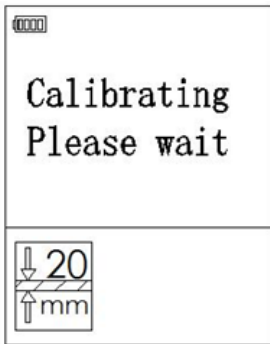
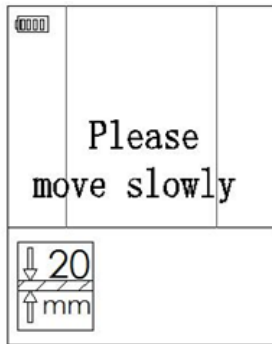
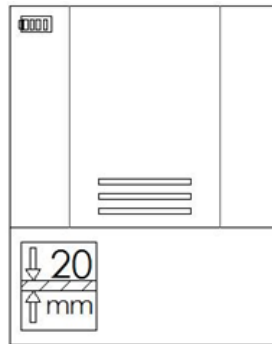

Figure 8
Figure 9
Figure 10
(as shown in FIG 8 and FIG 9) Place the instrument on the surface and move to the left or right. When the device detects an object, a signal strength icon will appear on the display screen and will gradually increase as you approach the profile (as shown in FIG 10). At the same time, a beep will sound.
When the detector leaves the centre of the object being measured, the display screen will display the interface, as shown in FIG 10.
- Sometimes, due to different environmental factors, the instrument may not be automatically calibrated, and the alarm signal may be incorrect, and must be calibrated manually. The calibration method is a short press of the Wooden Profile Detection Mode button and the display screen displays the interface, as shown in FIG 9.